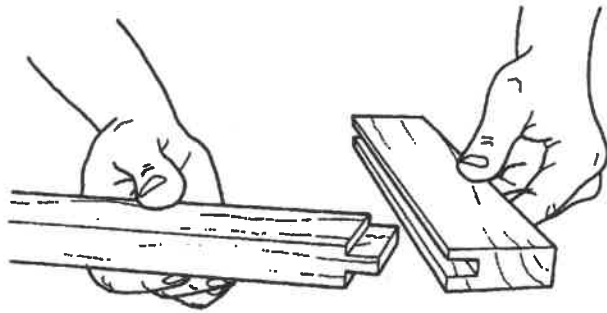
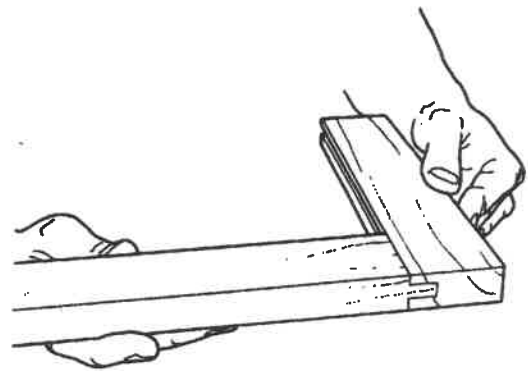

Fig. C-22
Fig. C-23
15. Assemble workpieces "A" and "B", shown in Fig. C-22. Fig. C-23 illustrates the completed tongue and groove joint.